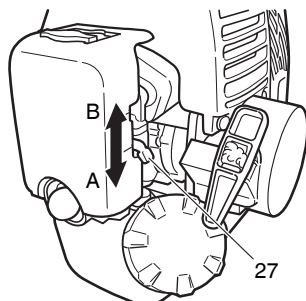

Fig. 24
2. Set choke lever (27) to CLOSED position (A). (Fig. 24)